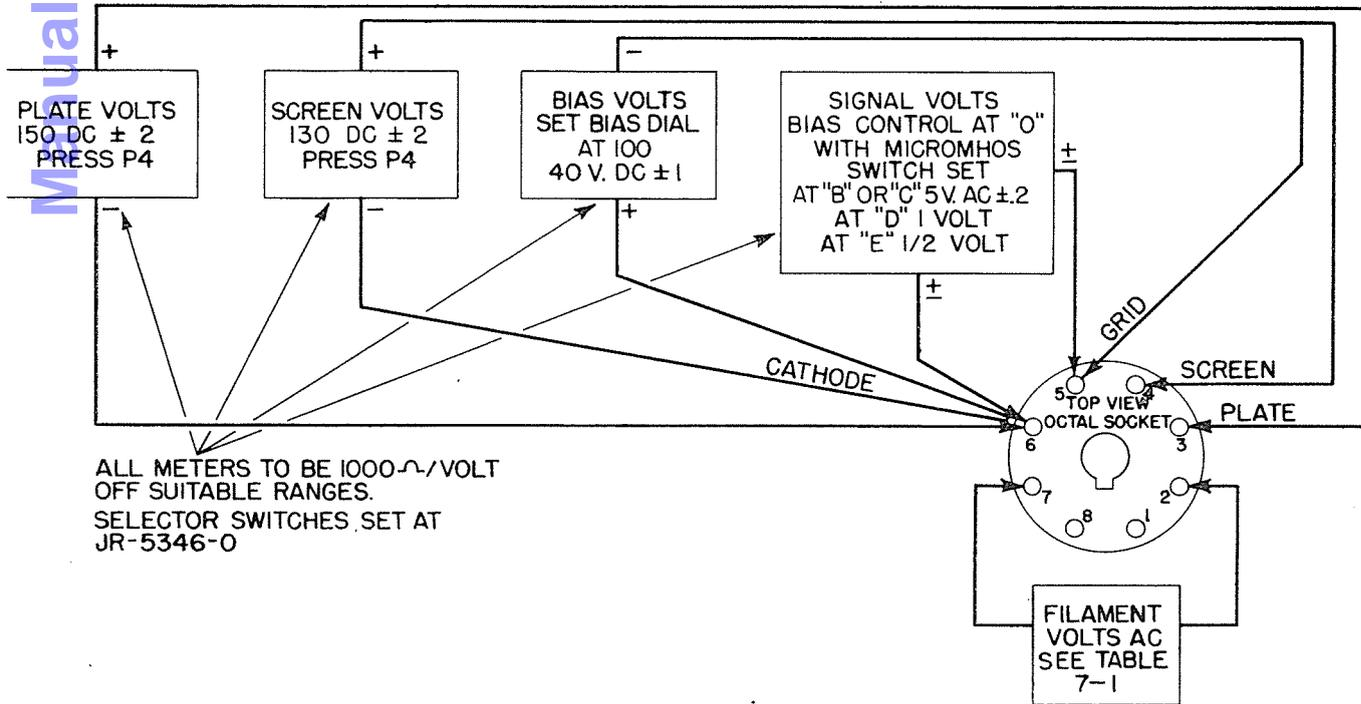

Figure 7-1. Voltage Calibration Check Diagram
Voltage tests must be made with an external multimeter, or individual meters of 1000 ohms per volt sensitivity having suitable ranges of ac and dc connected as illustrated by Figure 7-1. The Multimeter section of the TV-3A/U cannot be used for these tests. If the voltages are not in accordance with the following paragraphs, 7a(2) through 7a(6), refer to paragraph 8 and Table 7-2 of this section for probable causes.
(2) PLATE VOLTAGE CHECK (150 vdc).
(a) Connect the positive (+) terminal of the voltmeter to contact No. 3 of the octal test socket, X107, and the negative (-) terminal to contact No. 6 of the same socket. (See Figure 7-1)
(a) Connect the positive (+) terminal of the voltmeter to contact No. 4 of the octal test socket X107, and the negative (-) terminal to contact No. 6. Set BIAS control to zero. (See Figure 7-1)
(b) Connect the positive (+) terminal of the voltmeter to contact No. 6 of the octal test socket X107 and the negative (-) terminal to the No. 5 contact. (See Figure 7-1)
(b) Connect the terminals of the ac voltmeter to contacts 5 and 6 of the octal test socket X107. (See Figure 7-1)
(1) Turn on the equipment and set all controls in accordance with paragraph 7a(1) of this section.
(2) Connect a voltmeter between pins 5 and 6 of octal socket X107 as illustrated by Figure 7-1.
(3) Set BIAS control R116 at 100.
(4) Adjust slider "A" of R118 until the meter reads 40 volts dc.
(5) Connect a voltmeter between pins 4 and 6 of octal socket X107 as in Figure 7-1.
(6) Press buttons P3 and P2 and adjust slider "B" of R118 until the meter reads 56 volts dc.
(7) Tighten the slider screws and recheck the voltages.